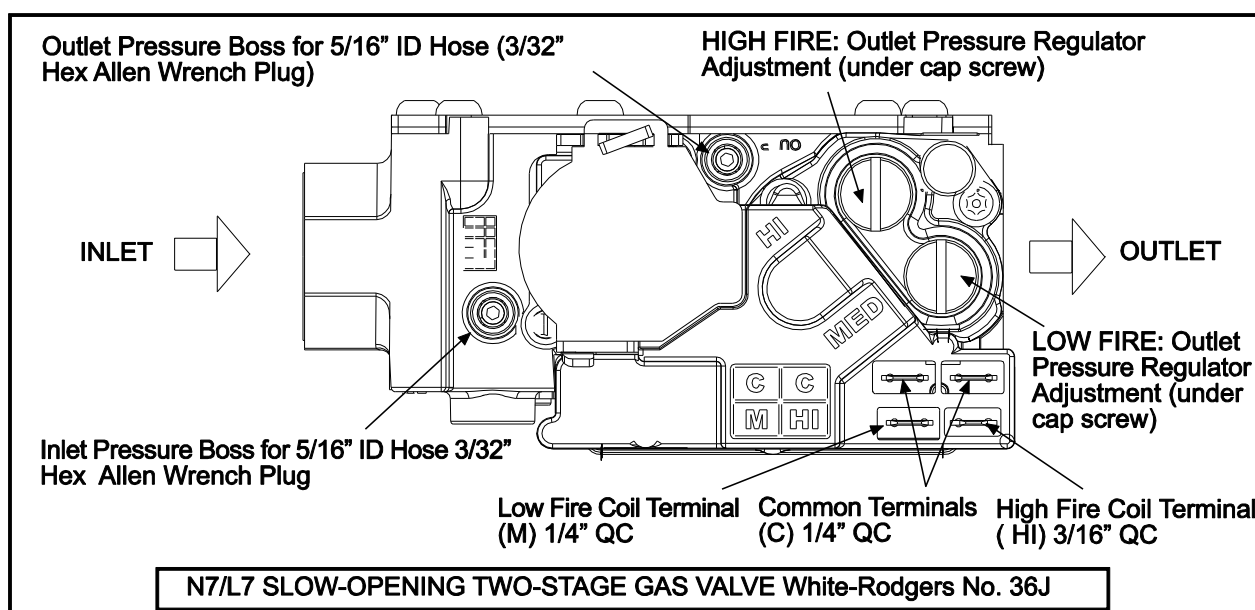

Figure 2
2. Remove regulator cover screw from the **low** outlet pressure regulator (see **Figure 2** below) and turn screw clockwise  to increase pressure, or counterclockwise  to decrease pressure. Replace regulator cover screw and tighten securely.
4. Remove regulator cover screw from the **high** outlet pressure regulator (see **Figure 2** below) and turn screw clockwise  to increase pressure, or counterclockwise  to decrease pressure. Replace regulator cover screw and tighten securely.